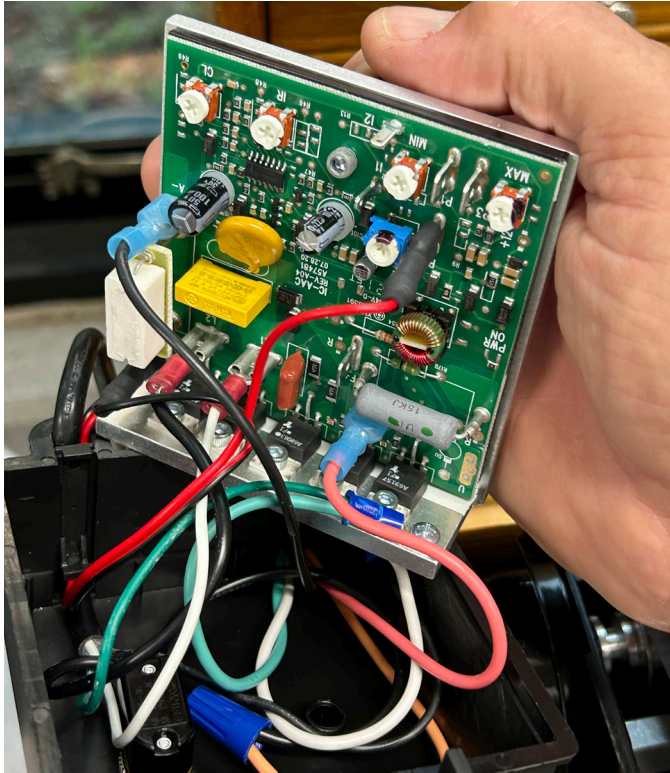

FIGURE 8
- F. Pull the speed control board free from the housing (see Figure 8).